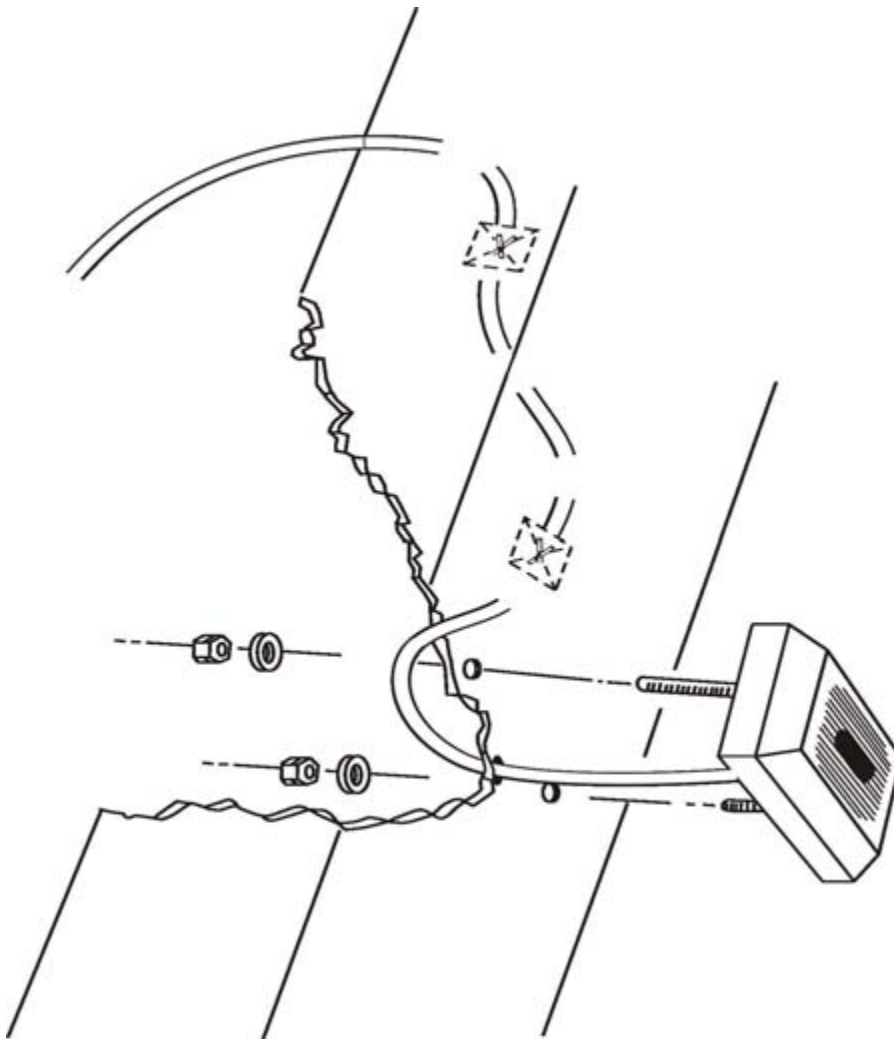

Fig. 4: Install sensor
- Remove the aperture plate of the arm cover and install the remote sensor (Fig. 4 / p. 8).